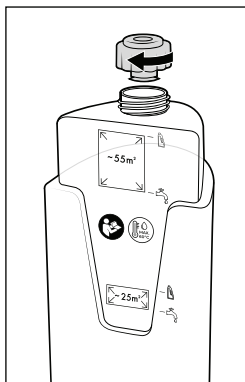

Fig. 10
- ◆ Close the lid of the fresh water tank **11** (see fig. 10).